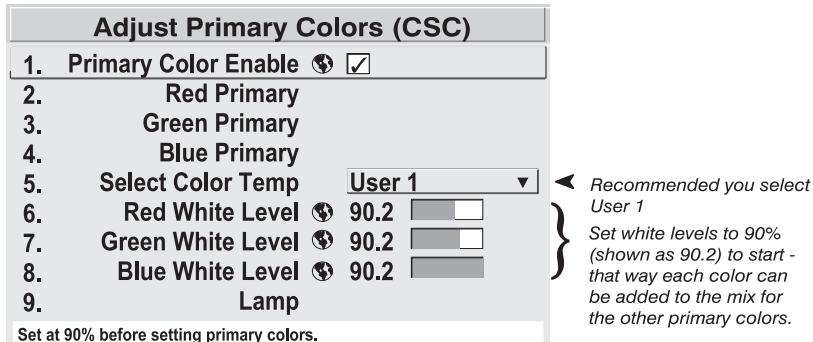

Figure 3.33. Select User 1 and set White Levels to 90%
- 2b) SELECT A “USER” COLOR TEMPERATURE (“USER 1” RECOMMENDED)** (Figure 3.33.) In the *Adjust Primary Colors (CSC)* menu, select a “User” color temperature that you will be defining through your adjustment of primary colors on each projector. Choose any of the four User choices, but note that User 1 is the default color temperature applied if you add a new source in the future while Primary Color Adjustment is activated (instead of the usual default of 6500K applied when Primary Color Adjustment is not enabled). As in any color temperature menu, white levels for preset color temperatures cannot be changed.